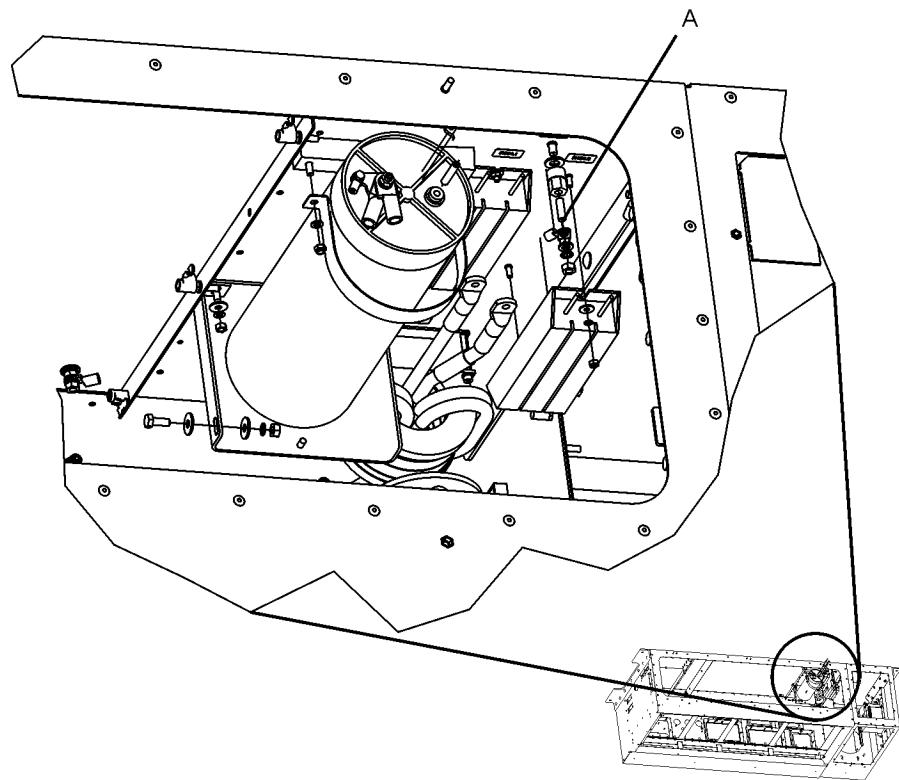

Figure 5-18: R104.1-2 Electrical Connections on STP-R104
- a. Disconnect cable at STP-R104 (see Figure 5-18). Both resistors have one cable terminating at this junction and fastened with an M6 nut, M6 Schnorr washer and M6 washer. Remove these fasteners and disconnect the resistor from STP-R104.
- a. Connect cable at STP-R104 (see Figure 5-18). Both resistors have one cable terminating at this junction and fastened with an M6 nut, M6 Schnorr washer and M6 washer. Connect the cable and affix these fasteners to connect the resistor to STP-R104.